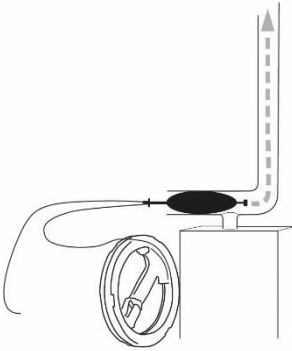

Fig. 18: Positioning the upper Sealing Bladder „Compact“ without gas lead through with the telescopic set.
- There is a small hose fixed to the upper end of the extension pipe. Plug the connector of that hose to the jack of the probe, see figure 18.